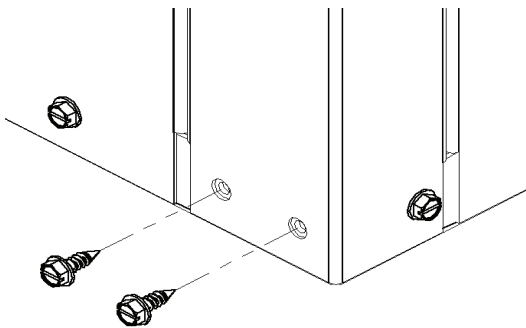

Fig. 4 — Remove Factory-Provided Screws
1. Remove and discard factory-provided screws from location where hanging brackets will be installed as shown in Fig. 4.